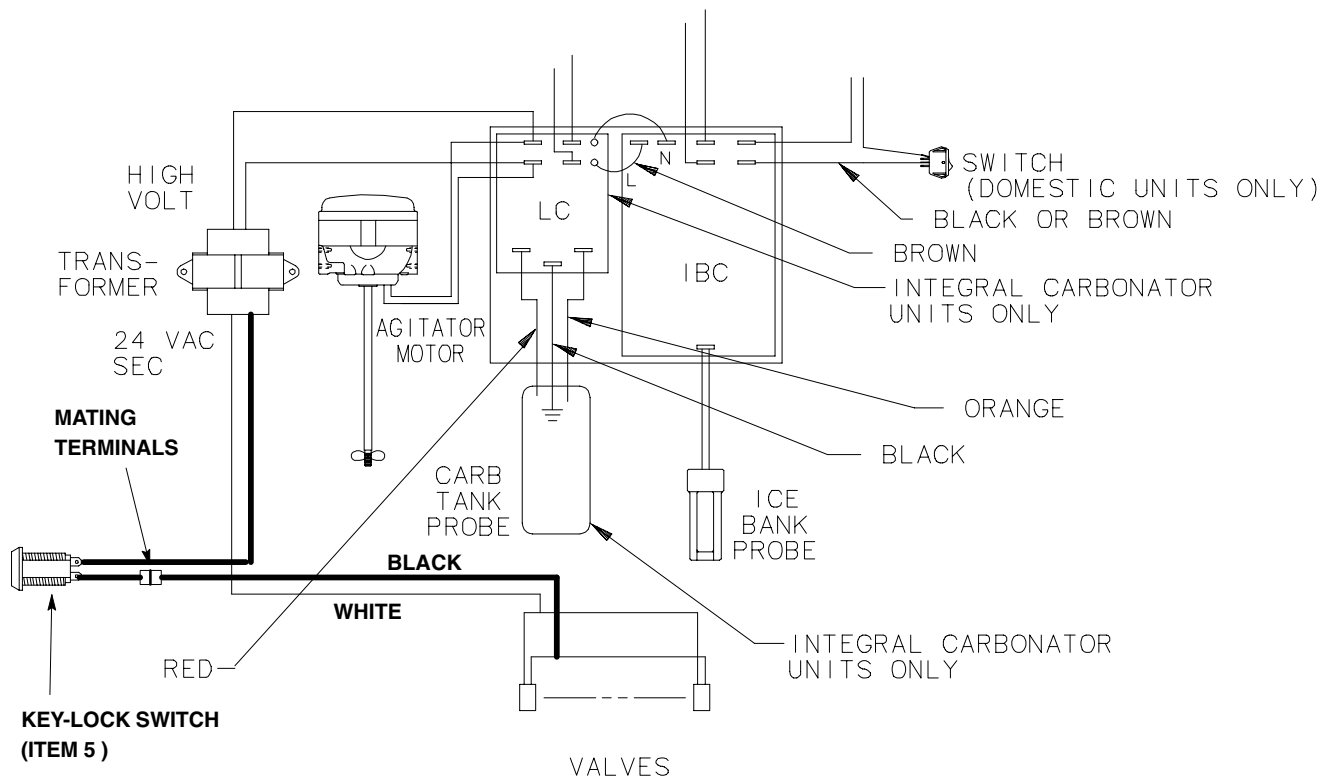

FIGURE 2. WIRING DIAGRAM
7. Referring to Wiring Diagram (Figure 2) disconnect black electrical wire, with push-on terminal on it's end, from terminal on the transformer outlet.
8. Connect black electrical wire, disconnected from the transformer outlet terminal, to mating electrical wire terminal on the WIRING HARNESS (item 1).
13. Insert LOCK KEY (item 3) in key-lock switch, then check Dispenser for proper operation.